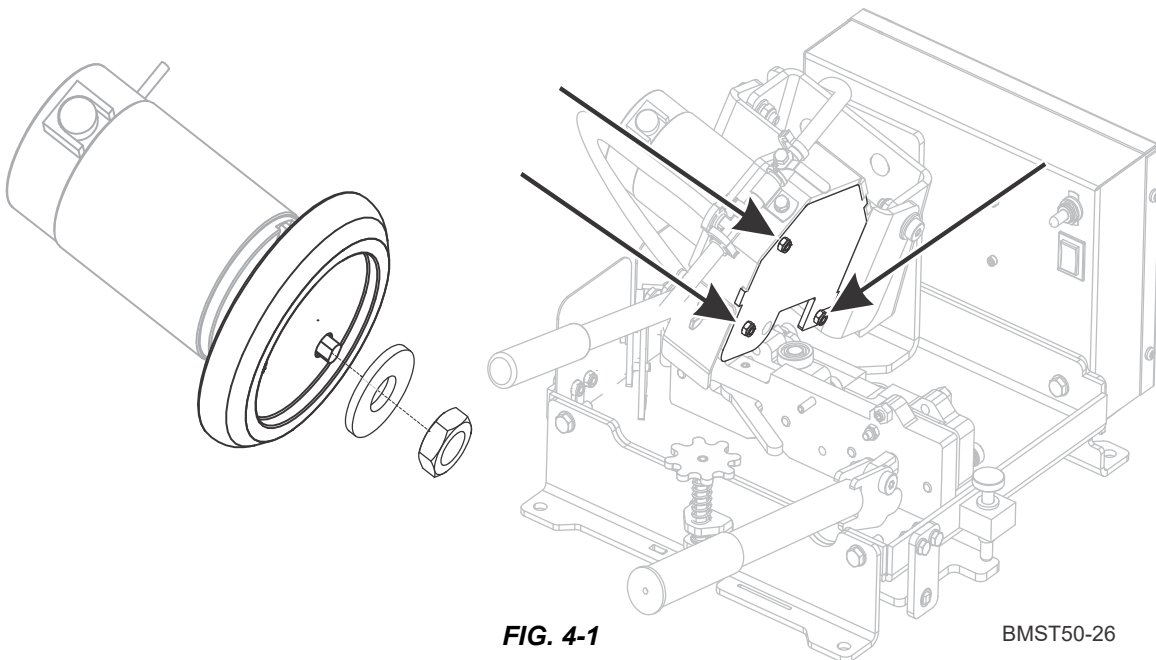

FIG. 4-1
5. Reinstall the grinding wheel cover. See fig. 4-1.